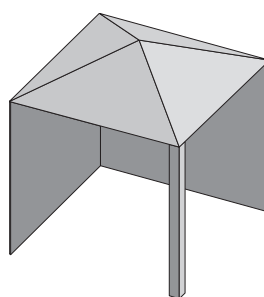
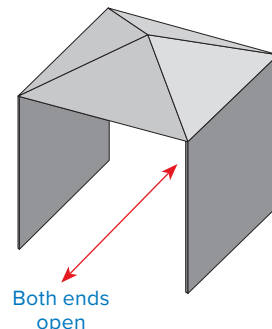

Fig. 2
Fig. 3
- » The sidewalls may be parallel, as in a breezeway, or at right angles to each other. **(Fig 2 & Fig 3)**